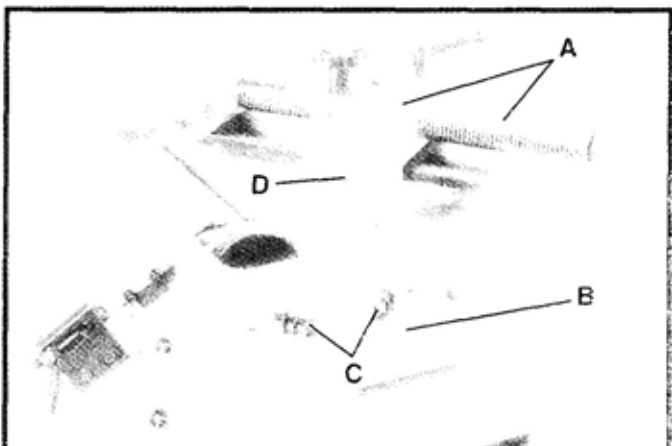

Fig. 15
1. Fasten fence carriage assembly (A) Fig. 15, to cutter-head pulley guard/carriage mounting bracket (B) using two M8 × 20mm long hex socket head screws, lockwashers, and flat washers (C) through holes in fence carriage assembly, one of which is shown at (D).